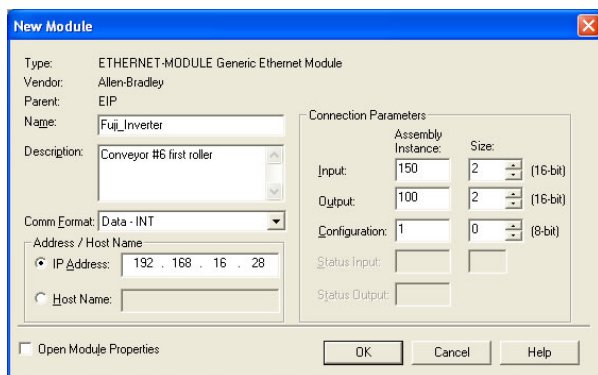

Figure 79: Interface Card Module Properties
- 4) The module properties dialog box will open (refer to Figure 79). Enter a Name and Description which will allow easy identification of the inverter on the network (the tags created in RSLogix 5000 will be derived from this Name). Because all inverter data is stored as 16-bit function code values, change the “Comm Format” selection to “Data-INT”. Enter the IP address of the targeted interface card.